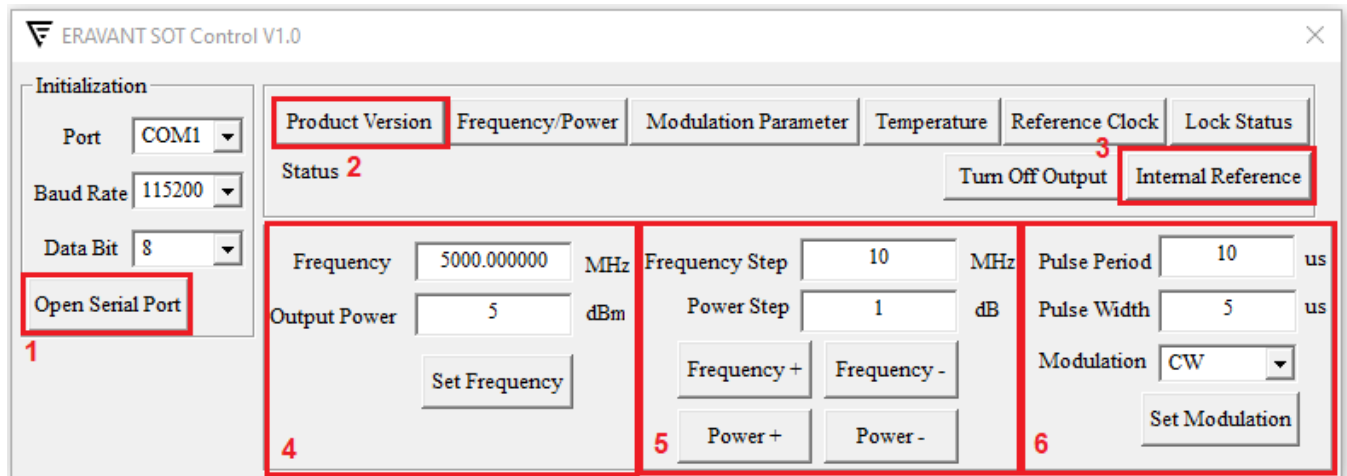

Fig. 1 Eravant SOT Control GUI for SOT-02220313200-SF-B6
As shown in Fig. 1, the steps to use the GUI to generate CW and pulse waveforms can be summarized as below,
1. Power on the synthesizer and connect the synthesizer to PC through serial port. Click on **"Open Serial Port"** on the GUI, which is indicated as block 1 in Fig. 1.